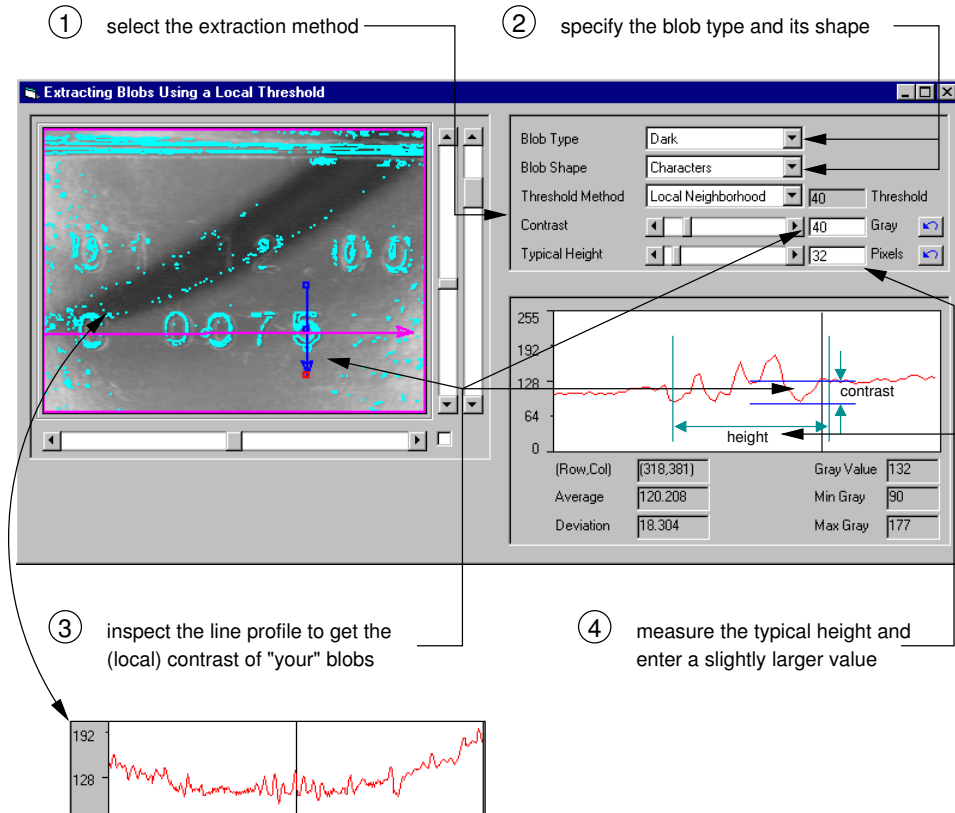

Figure 2.5: Using a local threshold.
Both extraction methods described in the previous sections will fail when pixels cannot be classified by their gray value alone. This is the case, e.g., when the gray value of the background changes over the image because of a unregular illumination. Such a situation is depicted in figure 2.5; see the gray value profile corresponding to the horizontal line.
The following steps are visualized in figure 2.5.
- ① Select 'Local Neighborhood' in the combo box Threshold Method.
- ② In the combo box Blob Type, select whether the blobs to be extracted are darker or lighter than the background; in our example, select 'Dark'. Furthermore, specify their shape in the combo box Blob Shape (in the example: 'Characters').
- ③ Now, create a line-shaped ROI for `AVTLineProfile` and place it vertically over a character. Inspect the gray value profile and determine the *local contrast* of the characters by moving the cursor over it and measuring the difference of gray values between background and character (see figure 2.5). Enter this value in the text box beside the slider Contrast.
- ④ Similarly, determine the height of a character (see figure 2.5) and enter a slightly larger value in the text box beside the slider Typical Height.